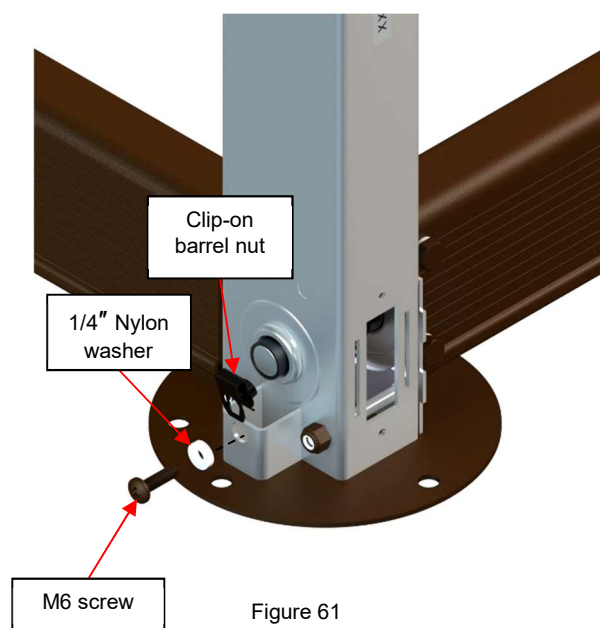

Figure 61
18) Install the clip-on barrel nuts at the bottom of the non-motor-side jack assemblies for the sleeves, using Phillips M6 x 20 mm screws and 1/4" nylon washers. Only the non-motor-side jack assemblies need clip-on barrel nuts installed. (Figure 61)